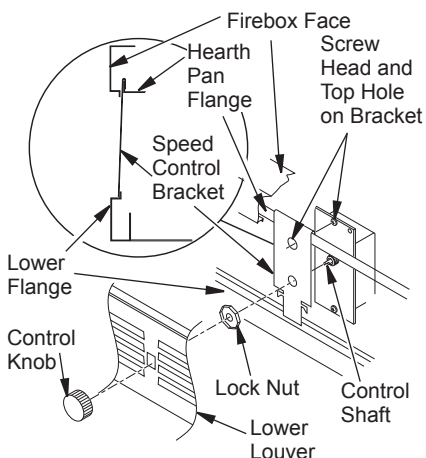

Figure 14 - Attaching Speed Control to Firebox with Panel Louvers
5. Position speed control bracket over flange on hearth pan by sliding it up between firebox face and hearth pan flange, then down until seated onto lower flange of louver opening (see Figure 14, page 15).
- bracket (see Figure 14). Secure speed control to bracket with lock nut by pushing and turning lock nut with pliers clockwise until it is tight against bracket.
- Place louver panel, louvers pointing up, back into framed opening. Align control shaft with rectangular opening by sliding control bracket along flange (see Figure 14).
- Place control knob, provided, onto control shaft (see Figure 14).